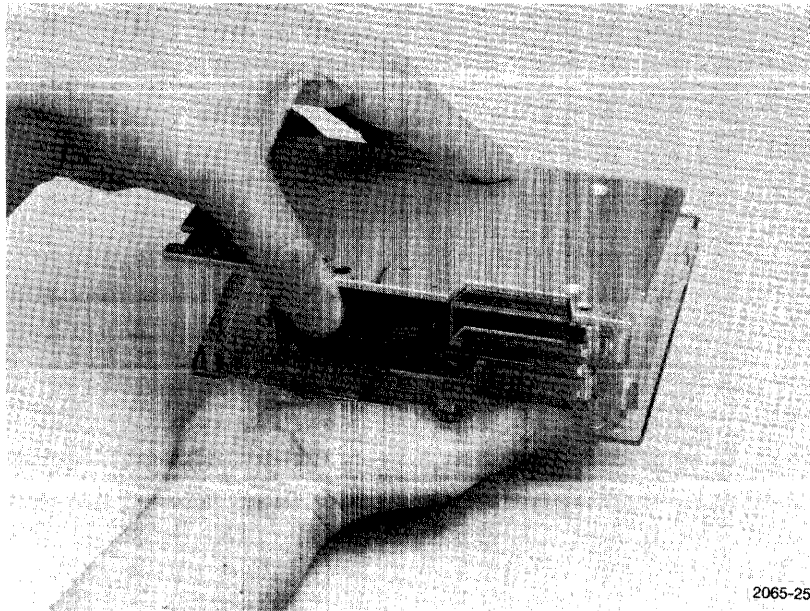

Fig. 3-7. Assembling the tape cartridge.
6. Make certain that the write-protect cylinder is in position, with the spring washer between the cylinder and the metal cartridge base. Position the metal cartridge base over the plastic cover. Be careful not to catch and wrinkle the tape with the plastic case (Fig. 3-7).